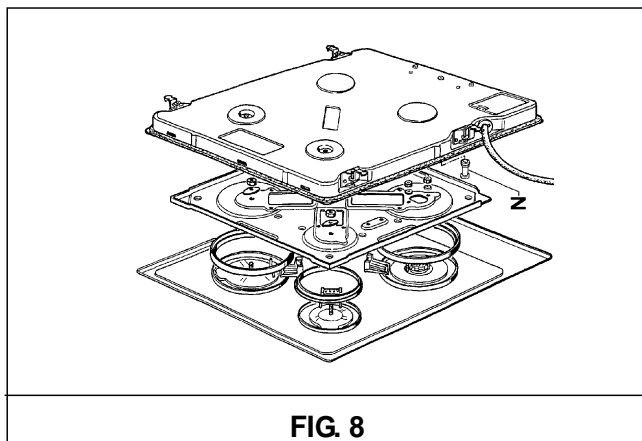

FIG. 8
**a)** Remove the hotplate from the top of the cabinet, overturn it, unscrew screw "Z" and remove under part (see fig. 8).
For access to the various parts, remove the hotplate from the top of the cabinet. Then overturn it, unscrew screw "Z" and remove under part. (see fig. 8).